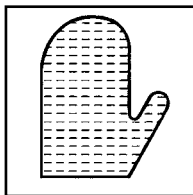

Figure 5 – Cable Adapter Attachment
- Lift plunger pin on cable adapter and depress clutch handle on machine to allow cable adapter to slip into drilled hole (*Figure 5*). Be sure plunger has locked into machine.